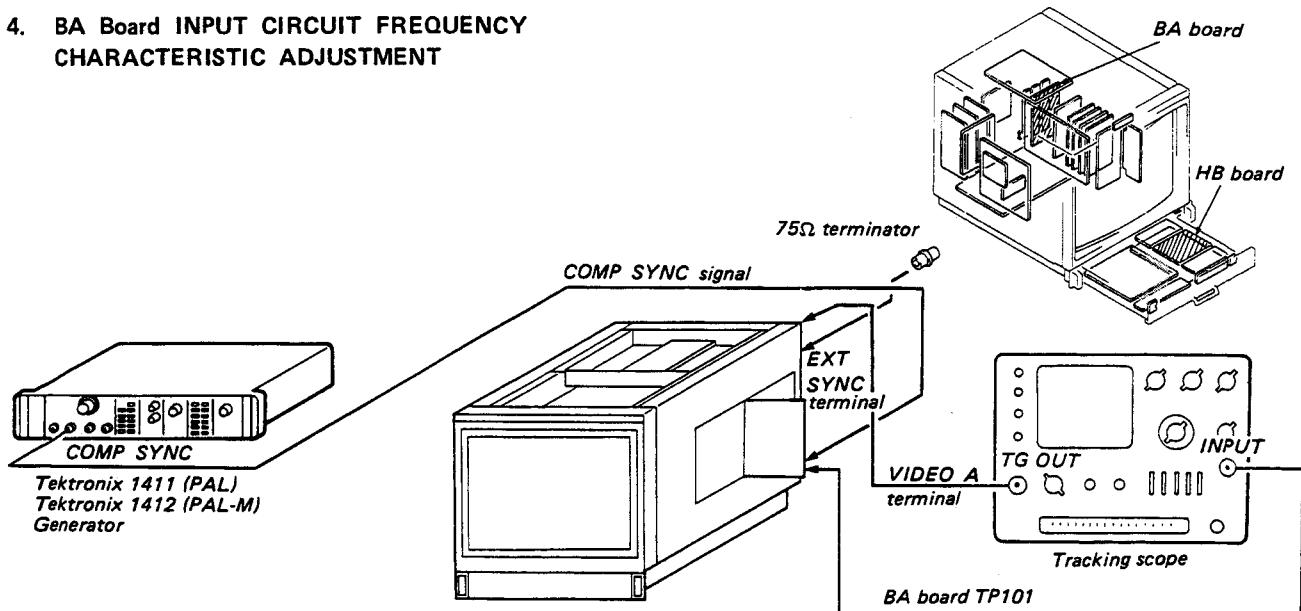

Fig. 4-1
1. Complete the connection as shown in Fig. 4-1.